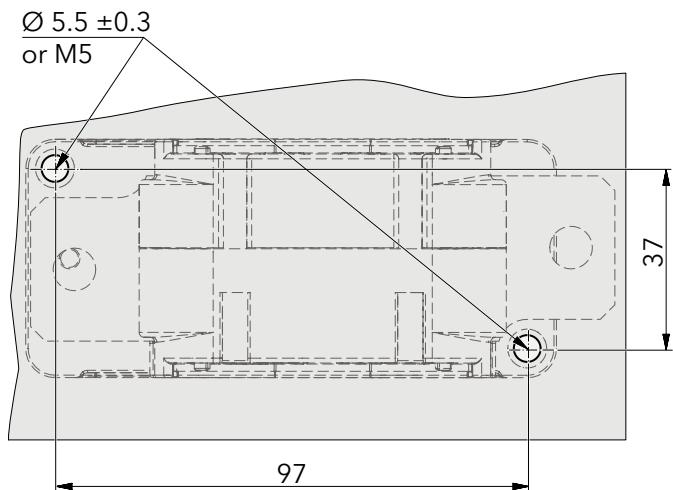
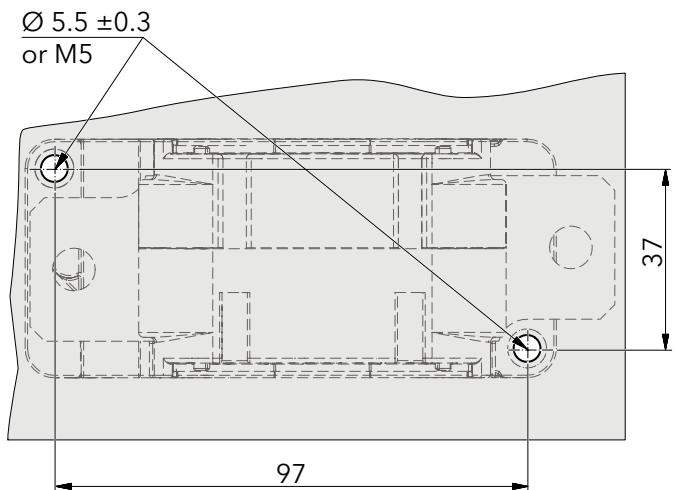

Fig. 4: C800-500-GxT...: Dimensions and layout of mounting holes
Fig. 5: C800-500-GxP.../GxU...: Dimensions and layout of mounting holes
- A suitable mounting plate with 2 mounting holes must be provided according to the following dimensional drawings (**Fig. 4 and Fig. 5**).